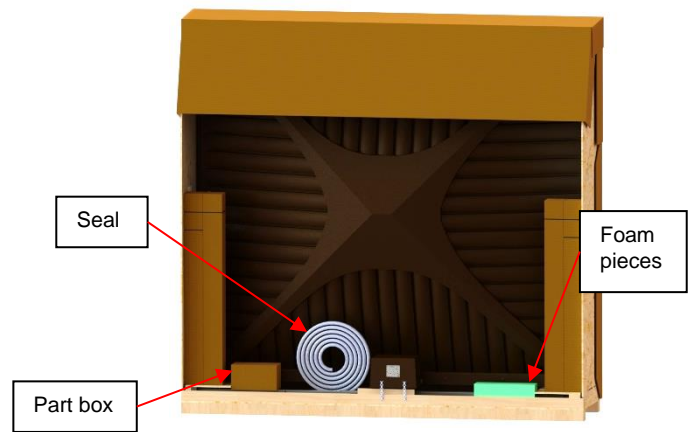

Figure 26
- 4) Remove the parts box, the foam pieces and the seal from the crate. Temporarily put these items in a safe place. (Figure 26)